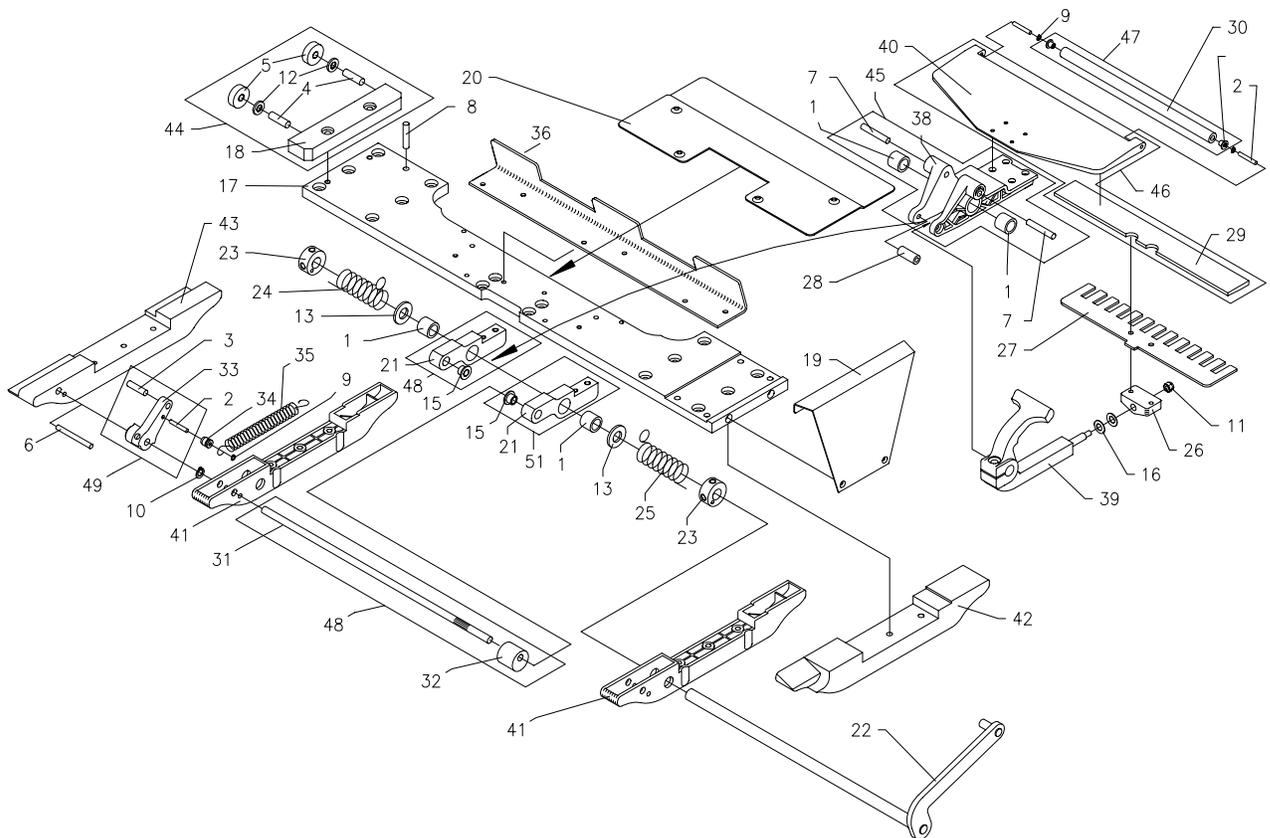
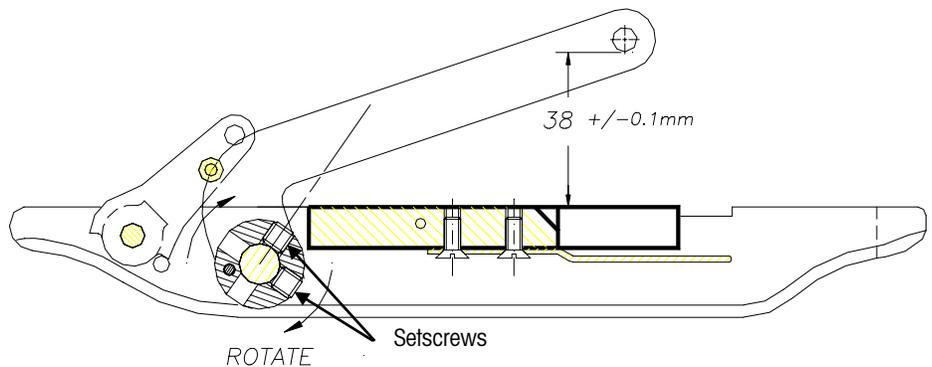

Figure 7-20
Figure 7-22: Gripper Actuator Lever Spring Adjustment
2. To replace the rear torsion spring (Item 24), carefully loosen the set collar (Item 23, Figure 7-20) and release the tension on the spring. **Caution: the set collar is under spring tension!**
2. Remove the rear Center Clamp skate (Item 43, Figure 7-20) from the Center Clamp assembly.
3. Remove and replace the eccentric drive lever (Item 49, Figure 7-20).
2. Remove the two Center Clamp skates (Items 41 and 43, Figure 7-20) from the Center Clamp assembly.
3. Remove the eccentric drive lever (Item 49, Figure 7-20).
4. Slide the grip ring (Item 10, Figure 7-20) off of the eccentric shaft.
5. Remove the pusher support (Item 36, Figure 7-20).
6. Remove the four retaining screws holding the gripper bearing blocks (Item 21, Figure 7-20) to the Center Clamp frame.
7. Rotate the eccentric shaft assembly (Item 48, Figure 7-20) and slide the shaft out of the front gripper-bearing block.
8. Rotate the rear-bearing block (Item 50, Figure 7-20) up, and remove the eccentric shaft.
2. Unplug the Center Clamp motor harness (Item 39, Figure 7-22).
3. Unplug the two sensor harnesses (Item 40, Figure 7-22).
5. Remove the 4 mounting screws (Items 44 and 45, Figure 7-22) holding the linear actuator to the machine frame, and remove the linear actuator.
6. Remove the end cap (Item 27, Figure 7-22) from the linear actuator case.
7. Carefully pull the linear actuator carriage (Item 22, Figure 7-22) and guide rollers (Item 26, Figure 7-20) from the case.
8. Remove the four actuator-nut roller assemblies (Item 32, Figure 7-22) from the carriage.
9. Remove the linear actuator case from the motor mount (Item 15, Figure 7-22) by removing the four mounting screws.
10. Clean old grease and dirt from all parts and the inside of the case. Also clean off the lead screw (Item #18 in Figure 7-22).
11. Apply liberal amounts of CPI Grease Type GRS-460-F (p/n 82909400A) CPI Grease Type GRS-460-F (p/n 82909400A) to the lead screw (Item #18 in Figure 7-22), bearings and guide rollers. Also apply to the channels in the linear actuator case.
13. When reinstalling the actuator nut roller assemblies (Item 32, Figure 7-22), torque the M4 retaining screws to 30 in lb and secure using blue Loctite.
1. Place the gripper actuator lever in the 38-mm position, as shown in Figure 7-22. This dimension is not critical at this time. This is only used to set the spring tension.
2. Rotate the set collar approximately 180 degrees until the setscrews are positioned as shown in Figure 7-22.